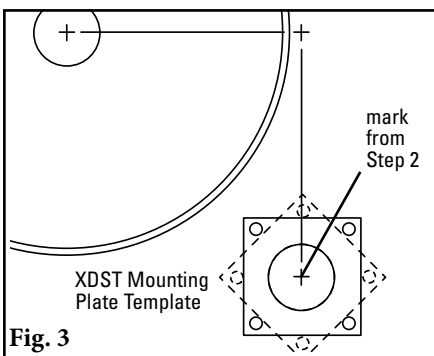

Fig. 3
3. **Mark and cut the mounting base holes.** Using the mounting base template provided in the instruction packet, position the large pole hole of the template on the chute or mounting plate with the hole notches aligned with the layout lines. Trace the pole hole and mounting holes (Fig. 3). Each base can be mounted in any position 360° around the pole as needed for tensioner to clear obstacles, as long as the pole's center point does not change. Cut the holes on both sides of the chute.